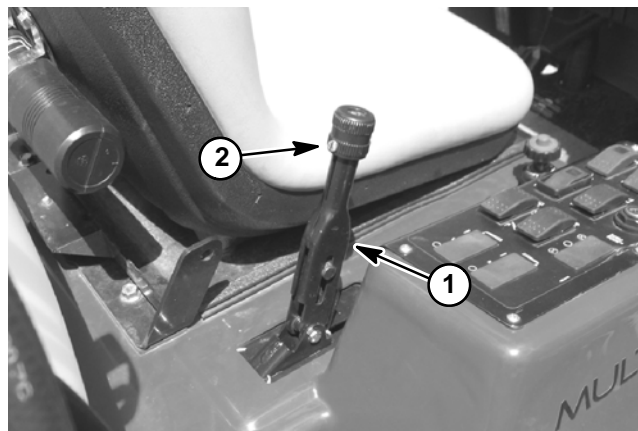

Figure 10
1. Loosen set screw on parking brake lever knob (Fig. 10). Turn knob on parking brake lever counterclockwise fully to loosen cable adjustment.